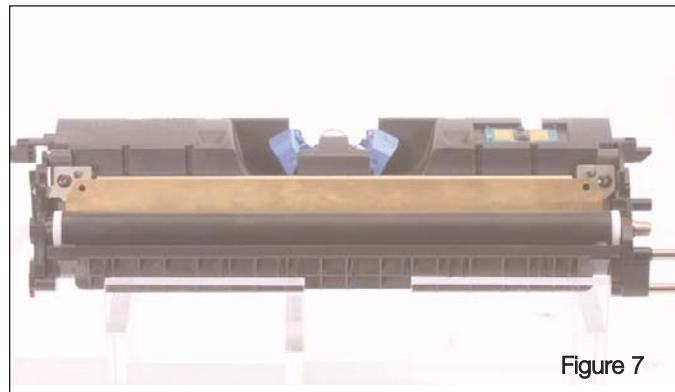

Figure 7
9. Position the cartridge and Hopper Jig so that the Developer Roller is in front of you as shown in Figure 7.